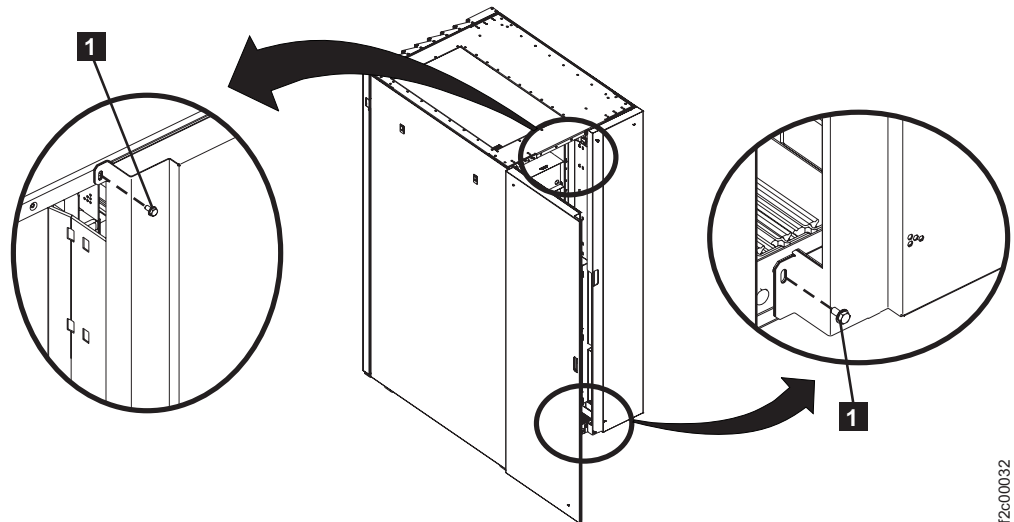

Figure 4. Removing retaining screws on right rear machine cover
9. Open the right rear cover (trained service personnel access area only). Use a 3mm hex wrench to remove the two screws **1**. See Figure 4 on page 11.